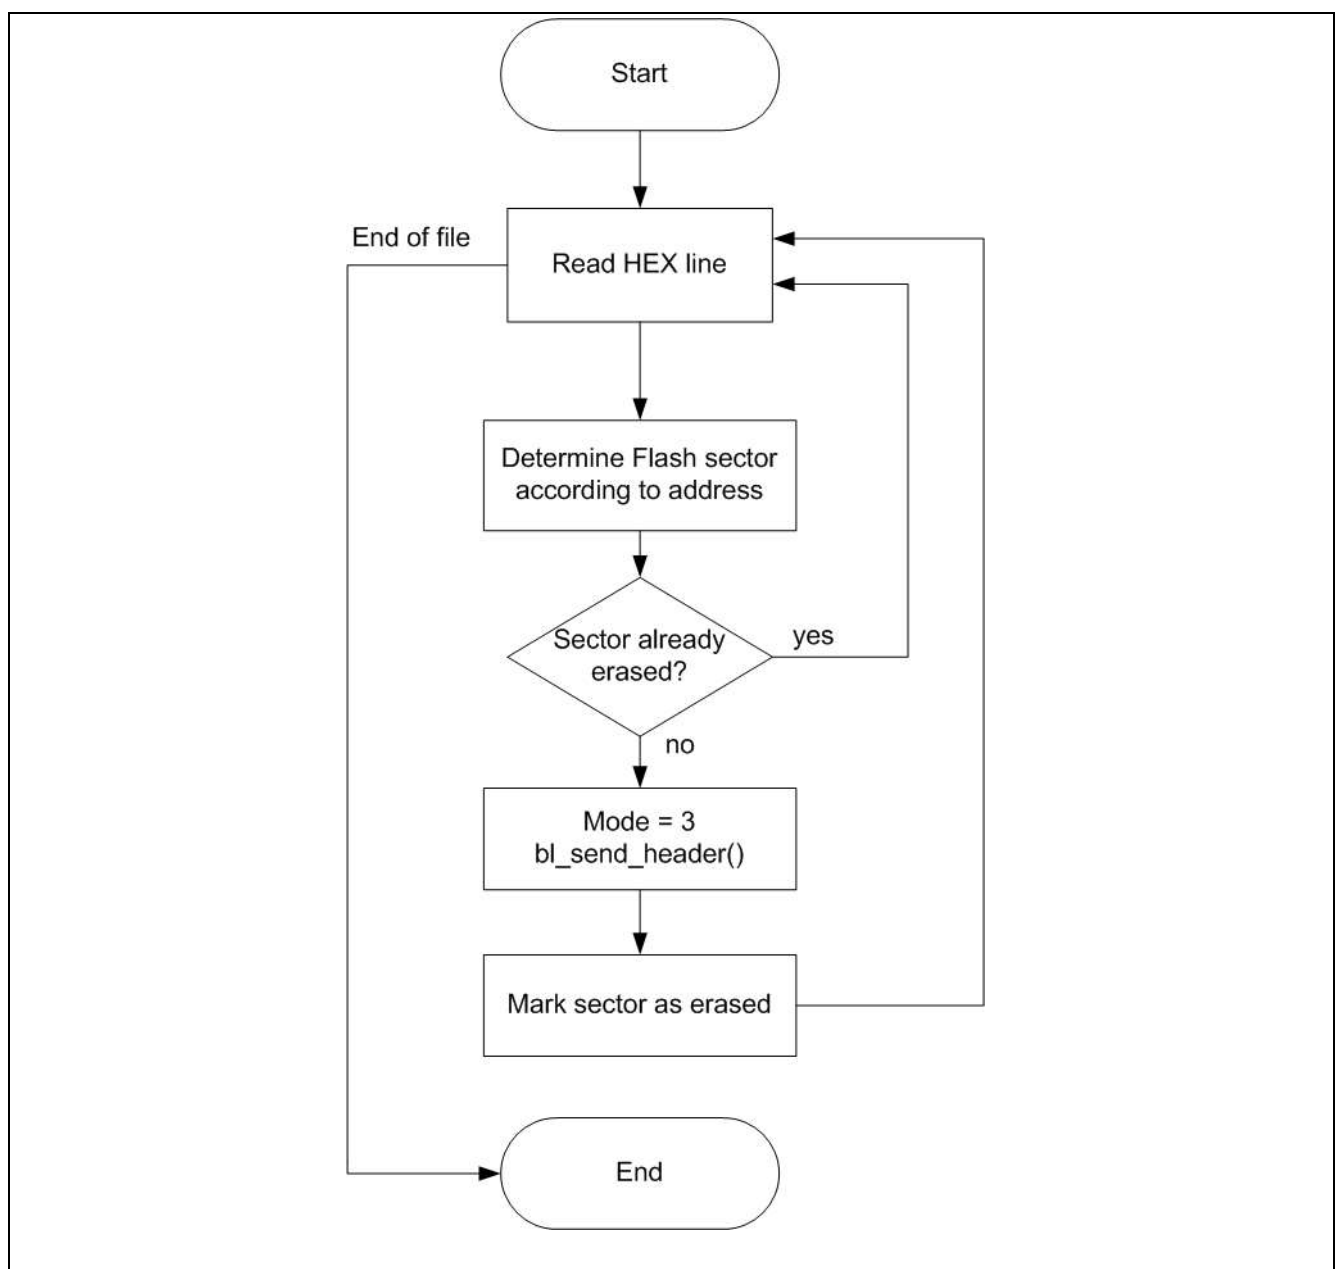

Figure 7 Flash erase procedure implemented in bl_erase_flash()
- The Flash erase procedure is implemented in the function bl_erase_flash() shown in Figure 7.